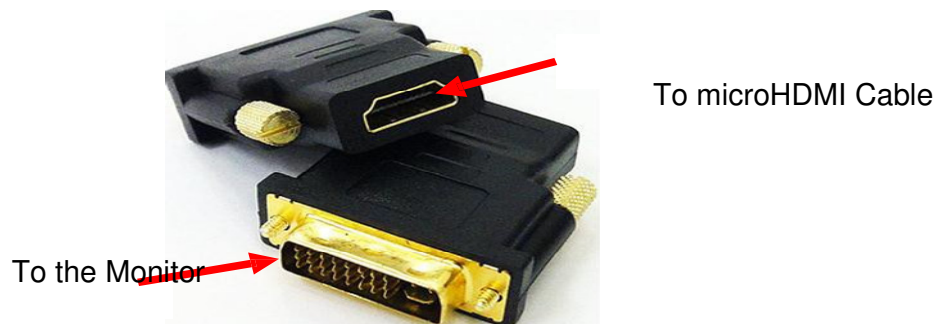

Figure 8 DVI-D to HDMI Adapter
2. If you have a DVI-D monitor you must use a DVI-D to HDMI adapter in addition to your HDMI cable. An example is shown in **Figure 8** below from two perspectives. If you use this configuration, you will not have audio support.